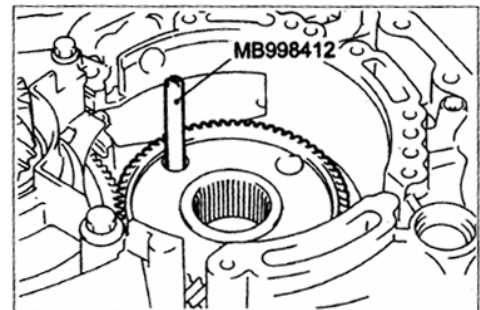

Fig 11A-74
- (22) Tighten four mounting bolts of the transfer drive gear to the specified torque as shown in the Fig.11A-75.
- (23) Install the parking pawl, spacer and spring,